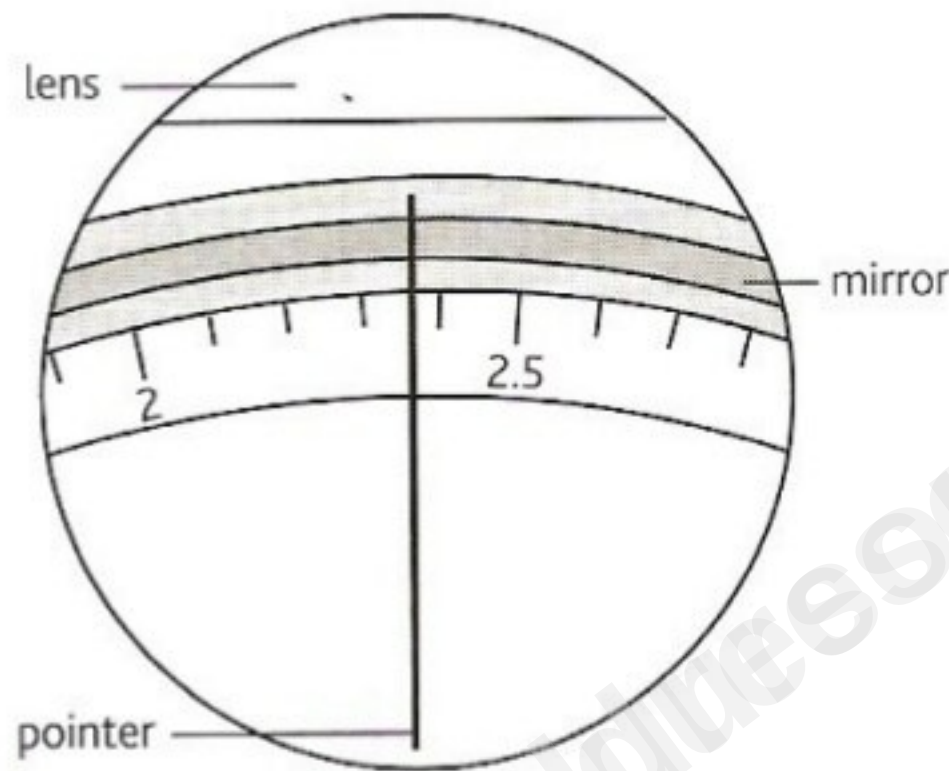

Figure 2 Magnifying a scale
1. Copy figure 2 on page 238 and define the terms of the equation of a straight line graph.